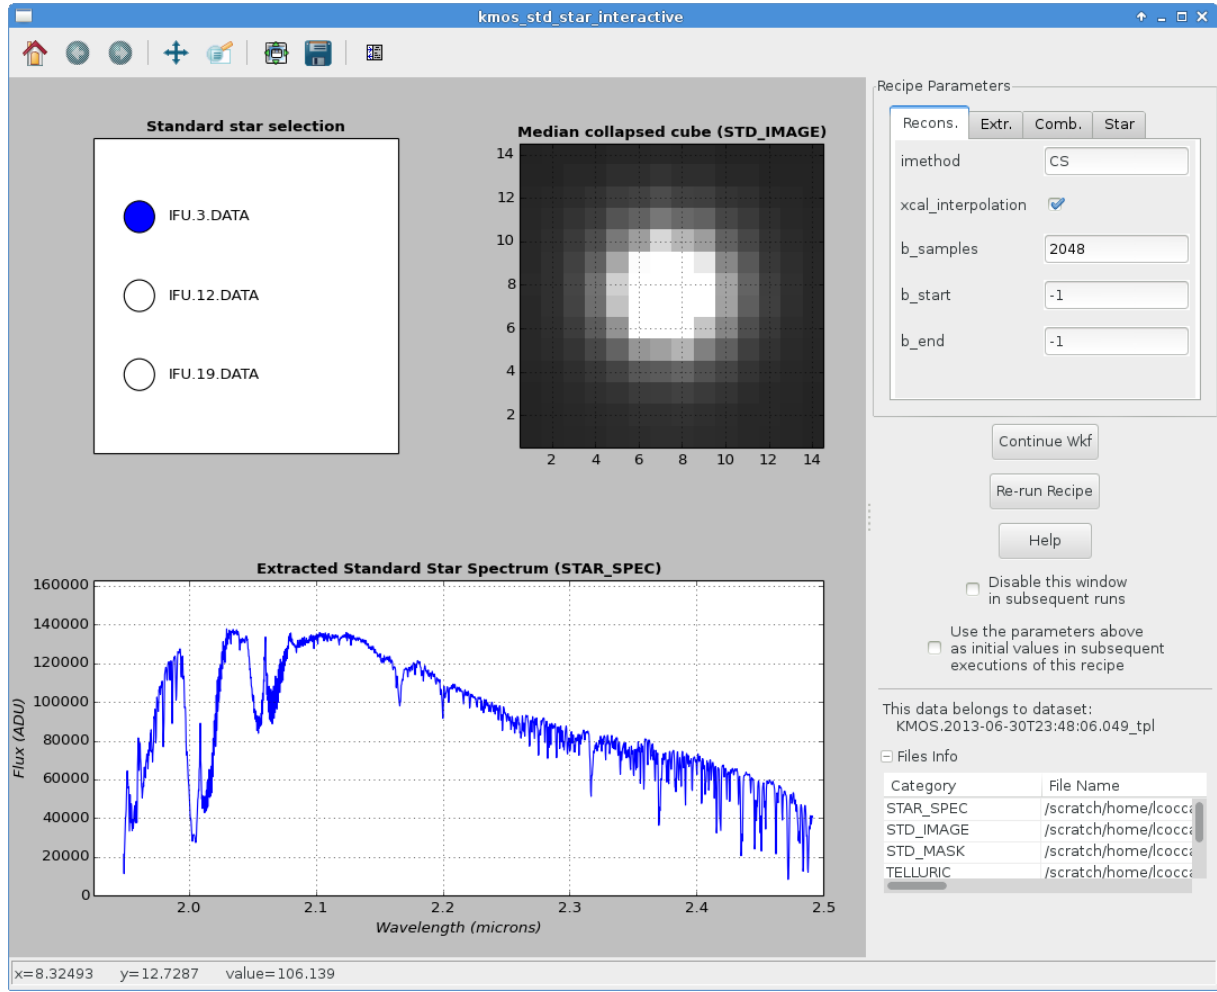

Figure 10.2: The interactive window for the Telluric Standard Star Calibration actor as displayed for the KMOS tutorial data set..
4. **Telluric Standard Star Calibration:** Figure 10.2 shows the interactive window that will pop-up at the end of the execution of the *kmo_std_star* pipeline routine. The image panel at the top-right of the window shows the median collapsed data cube (pipeline product: *STD_IMAGE*) For a single IFU. The total number of IFU's dedicated to observing a telluric standard star are listed to the left of this image and clicking on the circle will display the standard star from another IFU. For the tutorial data set only IFU #3 and IFU #12 observed standard stars.